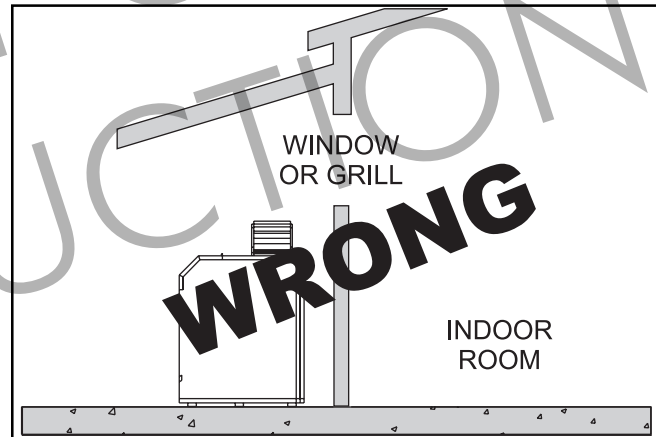

Figure 2. Incorrect Installation of Boiler.
3. Never install the heater under any kind of roof overhang. Do not locate the heater below or adjacent to any doors, windows, louvers, grills, etc. which communicate in any way with an inhabited area of a building, even though such communication might be through another structure such as a garage or utility room (see Figure 2).